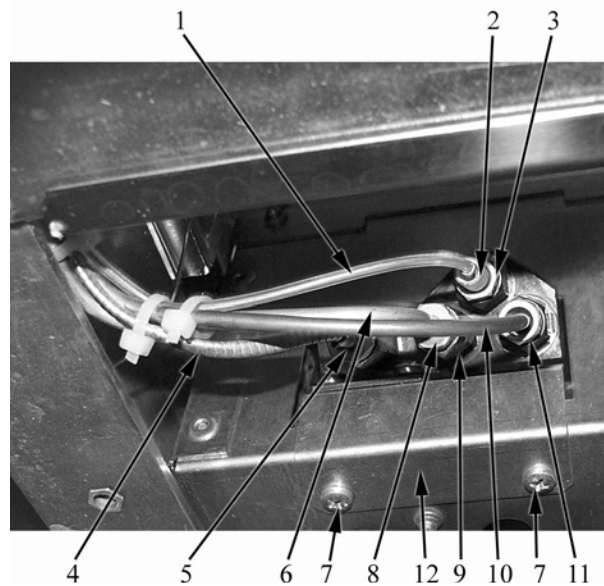

Fig. 16
- unscrew the union of the ignition plug (item 3 in Fig. 16) and remove it (item 2 in Fig. 16);
- unscrew the union of the thermocouple (item 11 in Fig. 16) and remove it (item 10 in Fig. 16);
- unscrew the union of the pilot flame pipe (item 8 in Fig. 16);
- unscrew the union of the thermopile (item 5 in Fig. 16) and remove it (item 4 in Fig. 16);
- unscrew the fixing screws of the flame pilot support square (item 7 in Fig. 16);
- disconnect the ignition cable (item 1 in Fig. 16);
- unscrew the union of the thermopile on the flame pilot (item 5 in Fig. 16) and remove it (item 4 in Fig. 16);